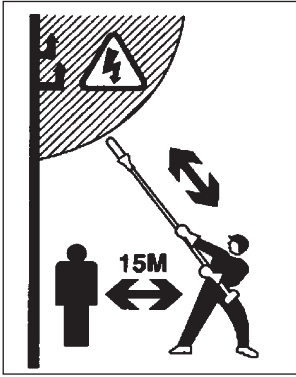

Fig. 1-1
- Review the area to be trimmed. Look for hazards that could contribute to unsafe conditions. DO NOT operate unit if any wires(power, telephone, cable, etc.) are closer than 15M (50ft.) to any part of the operator or unit. (Fig.1-1)